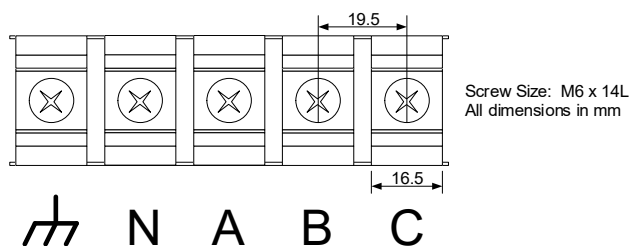

Figure 15 - AC Terminal Block Connections
5. Connect the ground cable as well as the three utility phase cables to the AC terminal block as shown in Figure 15.
6. The neutral connection (N) is provided for 4-wire grid-forming or standalone operation – this terminal should be left unconnected for grid-tie only applications. When used, **REG 41240 – AC Connection Type** must be set to '1' to indicate 4-wire operation.